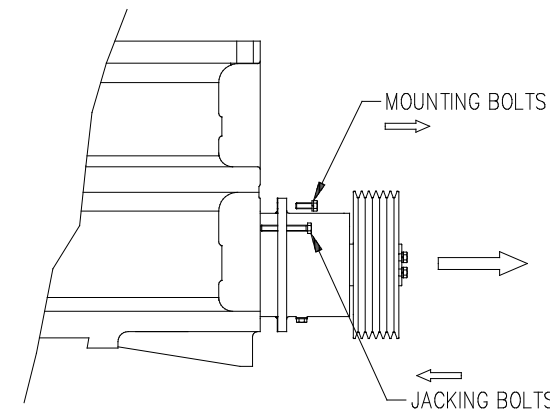

Fig. 6.9.7
4. Remove the horizontal shaft assembly retaining bolts and fit the jacking bolts to extract the horizontal shaft assembly. (Fig. 6.9.7).